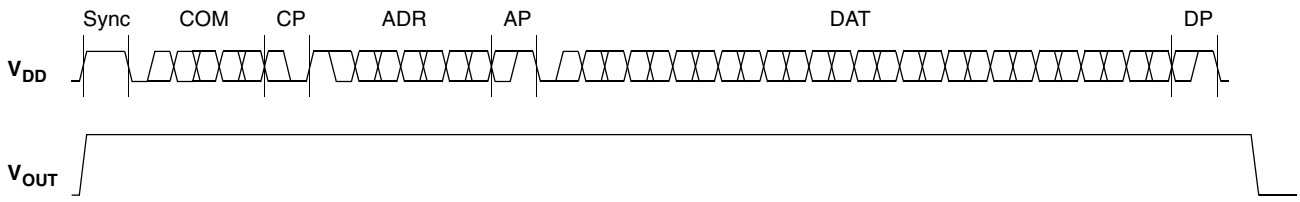

Fig. 5-2: Telegram for coding a Write command
- Write a register (see Fig. 5-2 on page 35)